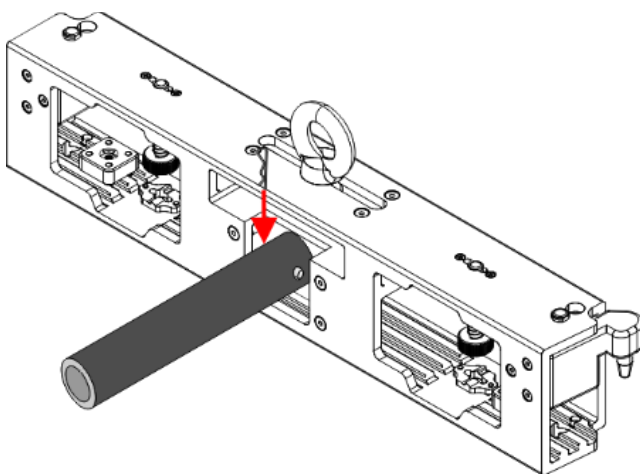

Fig. 16
- 03) Put the safety spring (B) into the opening on the conical pin (A) to secure the device to the P-truss, as shown in Fig. 16–17.